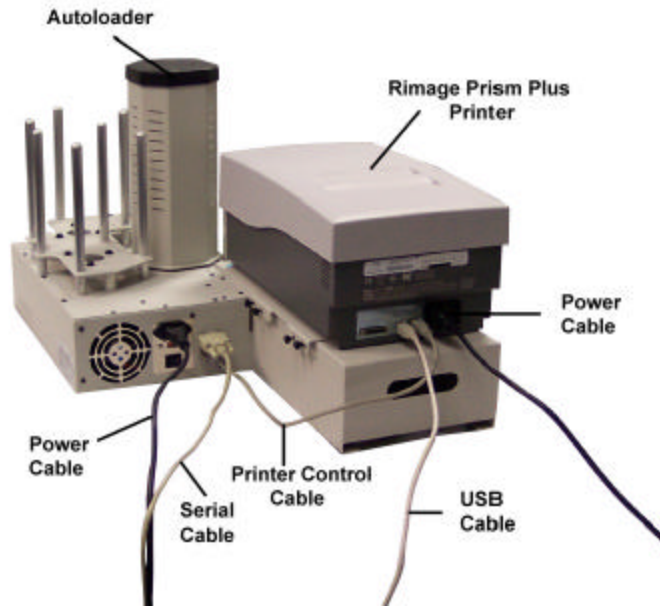
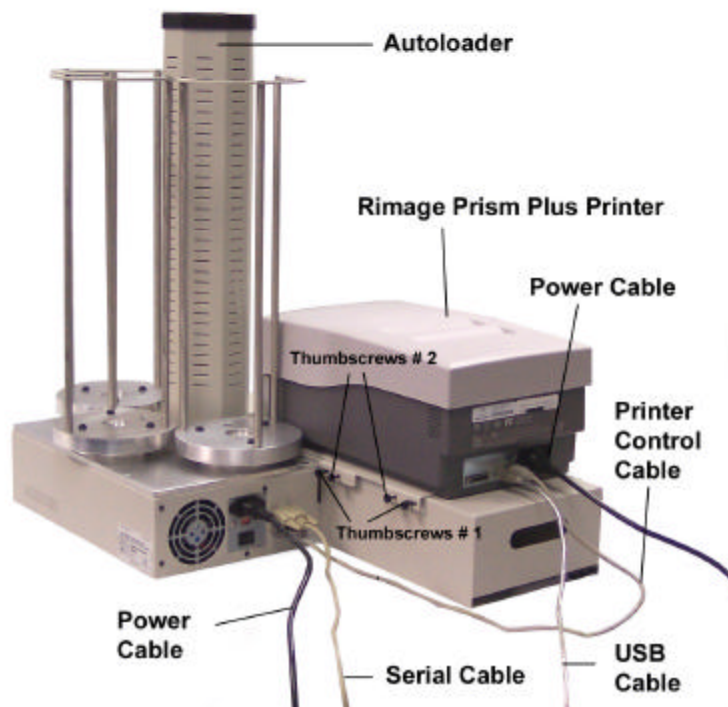
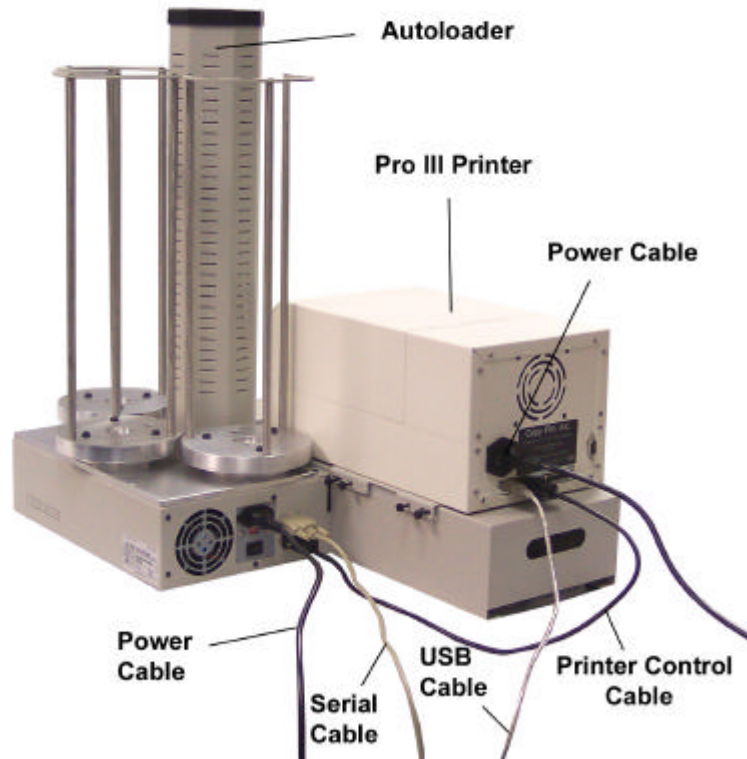
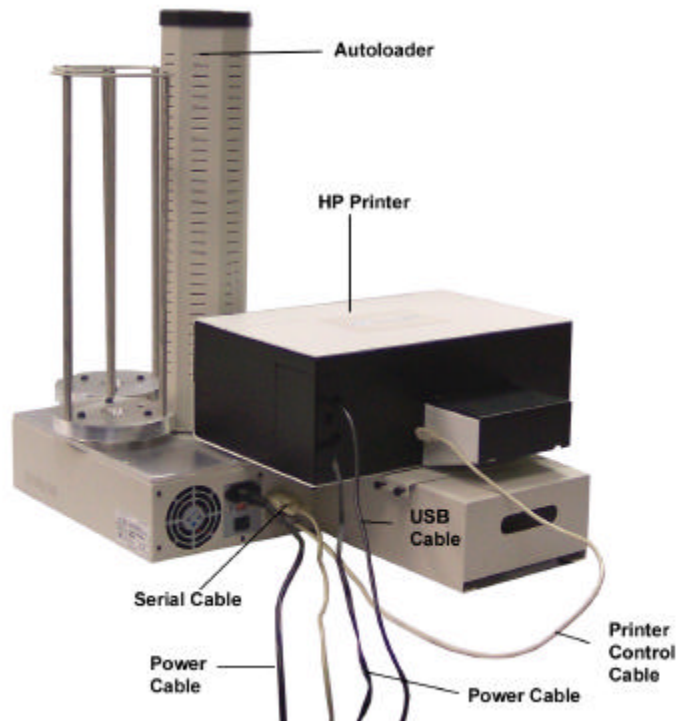

Fig. 4b
Fig. 5a
Fig. 6a
Fig. 7a
- Fig. 5a or 5b for system configured with Pro III printer (page 7)
- Fig. 6a or 6b for system configured with HP printer (page 8)
- Fig. 7a or 7b for system configured with Teac P55 printer (page 9)
Repeat the above steps until alignment is complete and then tighten the thumbscrews as shown in Fig.3a for Signature Z6 printer; Fig.4b for Rimage Prism Plus printer, Fig.5a for Pro III printer, Fig. 6a for HP printer and Fig.7a for Teac P55 printer.